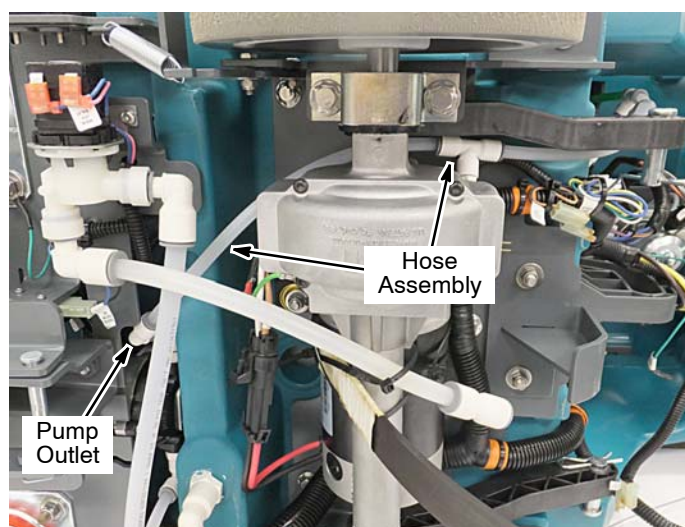

Fig. 22
10. Connect the hose assembly to the pump outlet fitting and route the hose assembly behind the transaxle towards the ec-H2o module as shown (Figure 22 and 23).